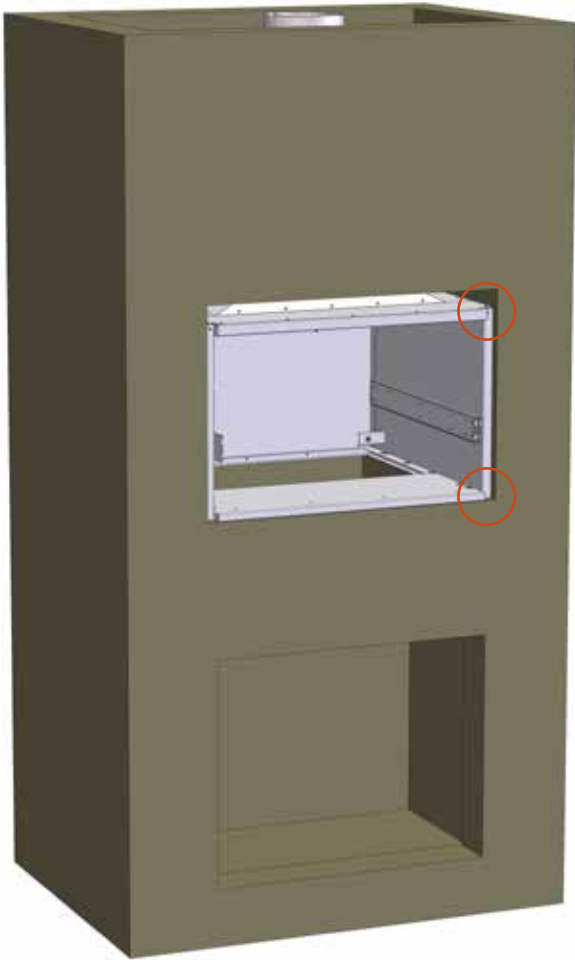

FIGURE 15
6. Finish building the non-combustible structure around the oven liner (Figure 15). Apply the final finish, if applicable) to the structure.
7. Align the front faces of the top and bottom pieces of the oven liner flush with the finished front face of the non-combustible structure (Figure 15). Secure the oven liner to the support ledges using at least eight installer-supplied screws (Figure 16). When the oven and slides are fully extended outside the oven liner (Figure 21), the weight of the oven is secured only by these screws. You must ensure a solid mounting to the support ledges.